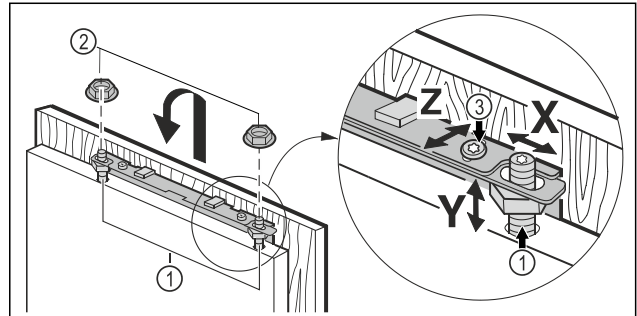

Fig. 45
- Hang the unit door on the adjustment bolts Fig. 45 (1) and screw the lock nuts Fig. 45 (2) loosely onto the adjustment bolts.
- Align the height Y and lateral inclination of the unit door: Set the adjustment bolts Fig. 45 (1) with a screwdriver.
- Tighten the lock nuts Fig. 45 (3).